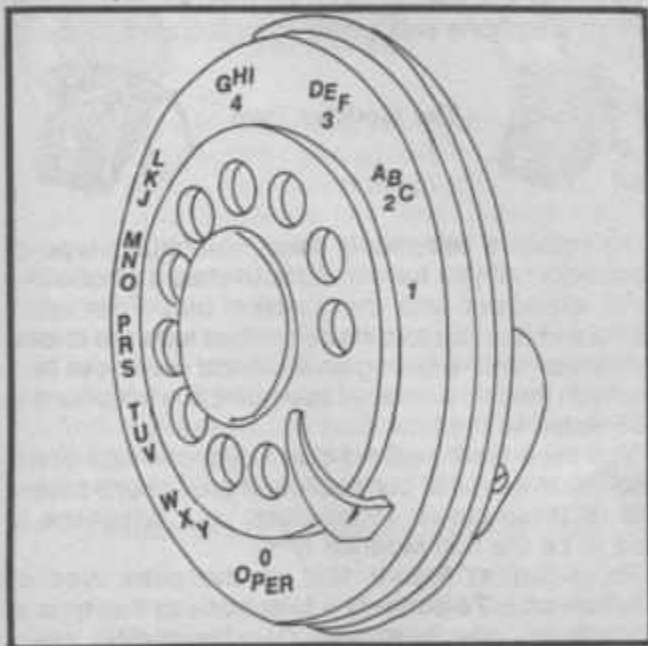
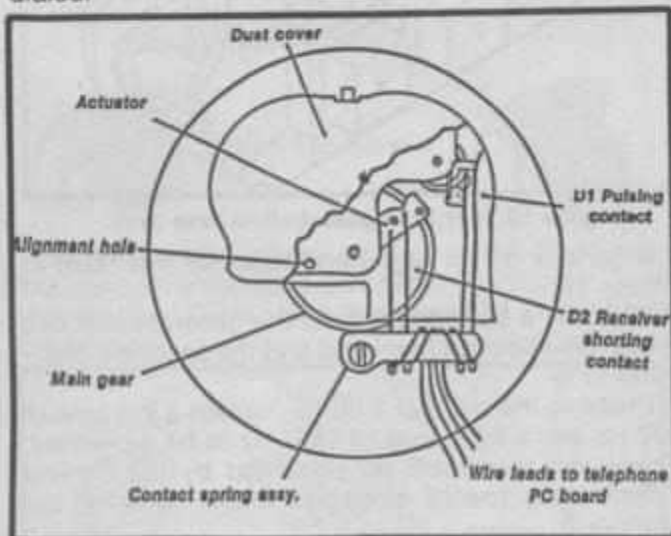

Figure 8. A typical rotary dial.
Figure 9. Mechanical switches of a rotary dial.
*pulse train* (Continuous number of on and off connections that are made within a specific amount of time) was first introduced in 1895. This invention is still in use today. It is called the *Rotary Dial*. See Figure 8. The dial is a device that the user rotates with their finger to a pre-determined position. When the finger is removed, the dial returns to its resting position. While returning, the dial opens and closes a small switch (D1 in Fig. 9) at a rate of 10 times per second. The number of switch openings and closings corresponds to the number or letter the dial was turned to before releasing. An example of this is, say you indicated, by using the Rotary Dial, the number 5. The switch D1 will open and close five times. This also holds true if you indicated the number 9 on the dial. D1 would open and close nine times. Equipment at the Central Office counts each pulse and then connects your telephone to the correct number dialed.
Refer to Figure 9 to see how switches D1 and D2 are interconnected using the Rotary Dial.